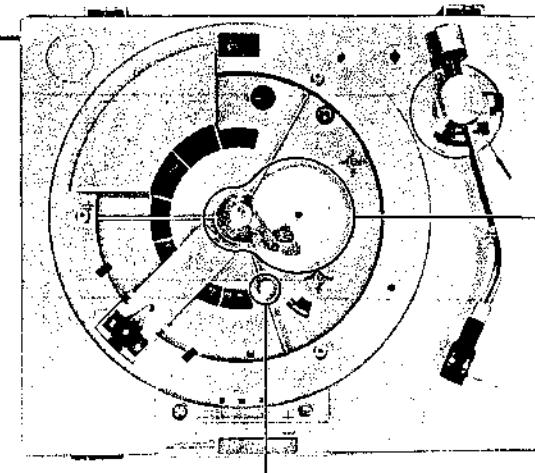

Fig. 6-4B
2. Reset: Move the clutch A and the clutch B in the arrowed direction as shown in Fig. 6-4B.
4. Turn the adjustment screw in Fig. 6-5 so that the portion shown by *1 of the center gear contacts the portion shown by *2 of the clutch A as shown in Fig. 6-4B.